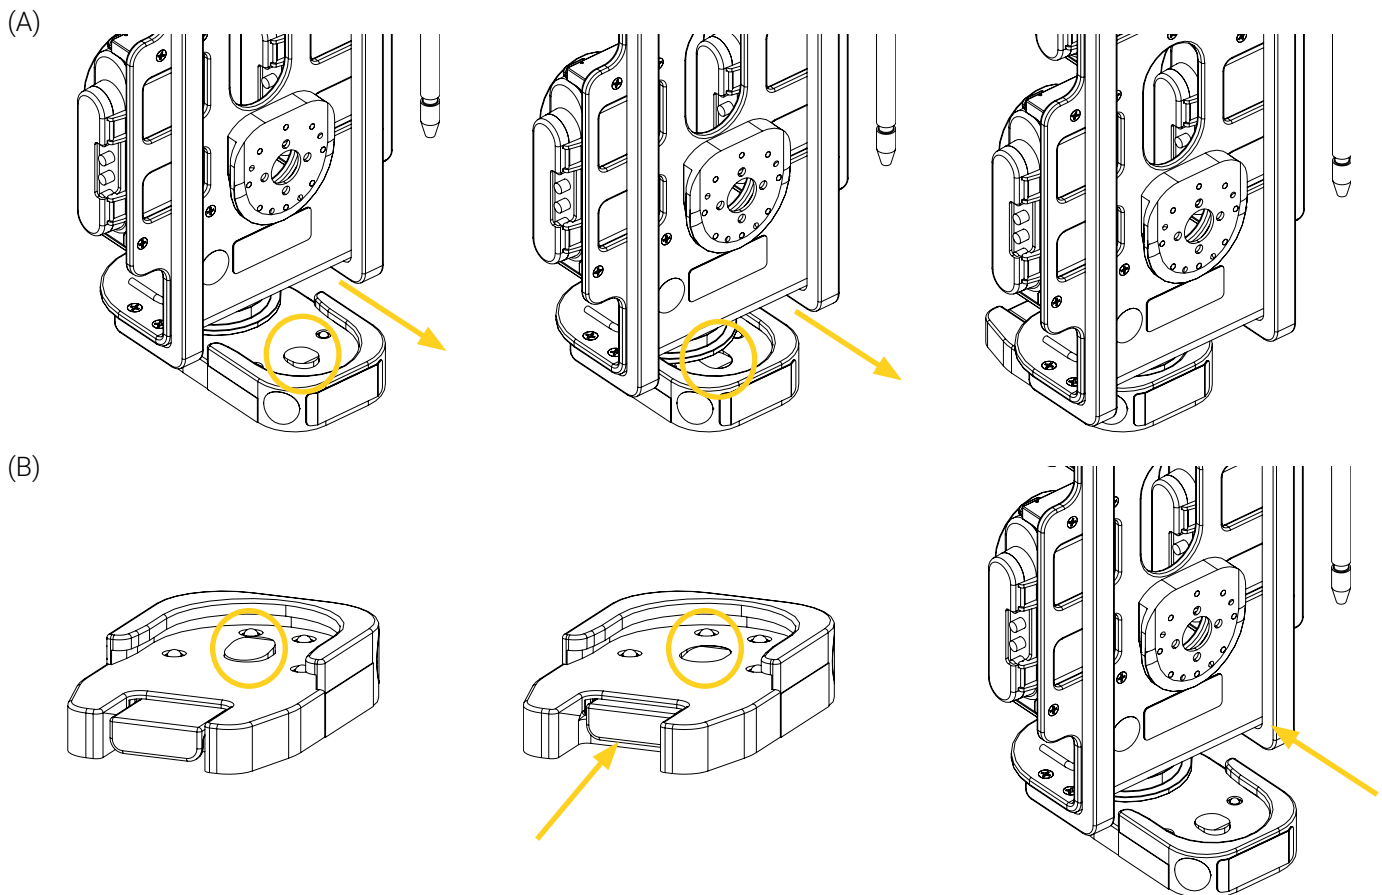

Figure 5: Locking/unlocking the Micro Base
- **To lock** the Micro Base, align and insert the micro disc of the mounting bracket in the Micro Base until you hear the click sound (Figure 5 A).
- **To unlock** the Micro Base, press and hold the quick release button located at the front of the base, then pull on the mounting bracket until the micro disc is out of the base (Figure 5 B). Release the quick release button.